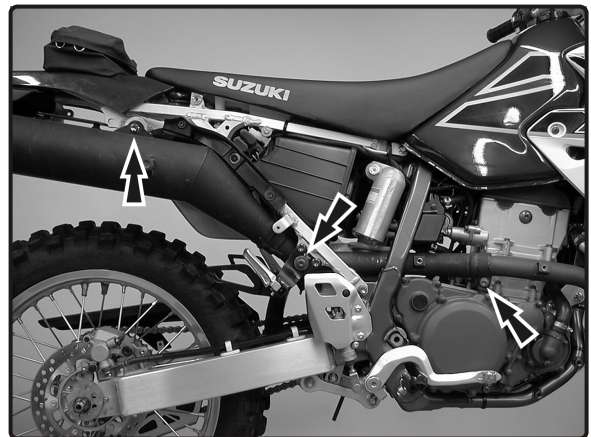

Fig. 2
- 2 Remove stock muffler assembly. (See Fig. 2 for fastener locations.)